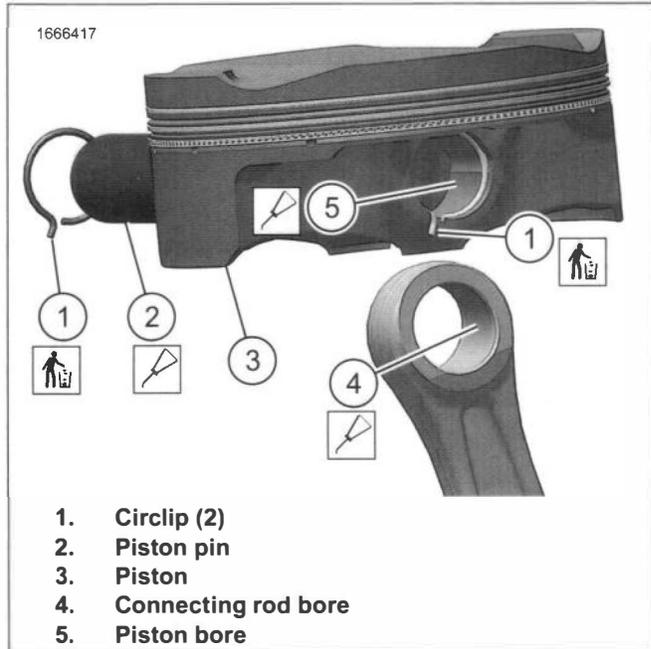
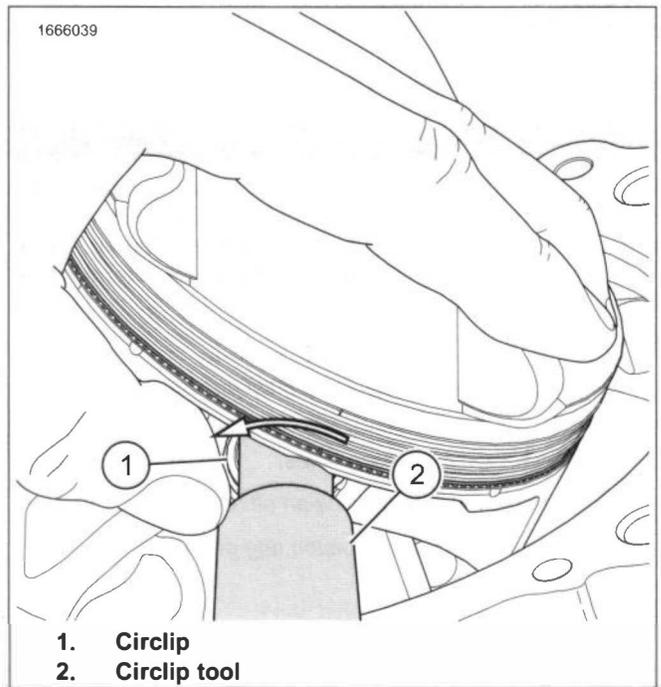

Figure 4-51. Piston Pin Assembly
Figure 4-56. Installing Circlip
1. See Figure 4-51. Install piston pin circlip (1) on one side of piston (3) with tang of circlip facing towards front of piston if removed.
2. Apply lubricant to piston pin (2), piston pin bores (5) and connecting rod bore (4).
- c. See Figure 4-56. While pressing in on circlip tool (2) turn counter clockwise.
- d. Verify piston pin circlip (1) is fully seated in piston pin groove.
6. See Figure 4-51. Verify smooth movement of piston (3) and piston pin (2) on connecting rod.